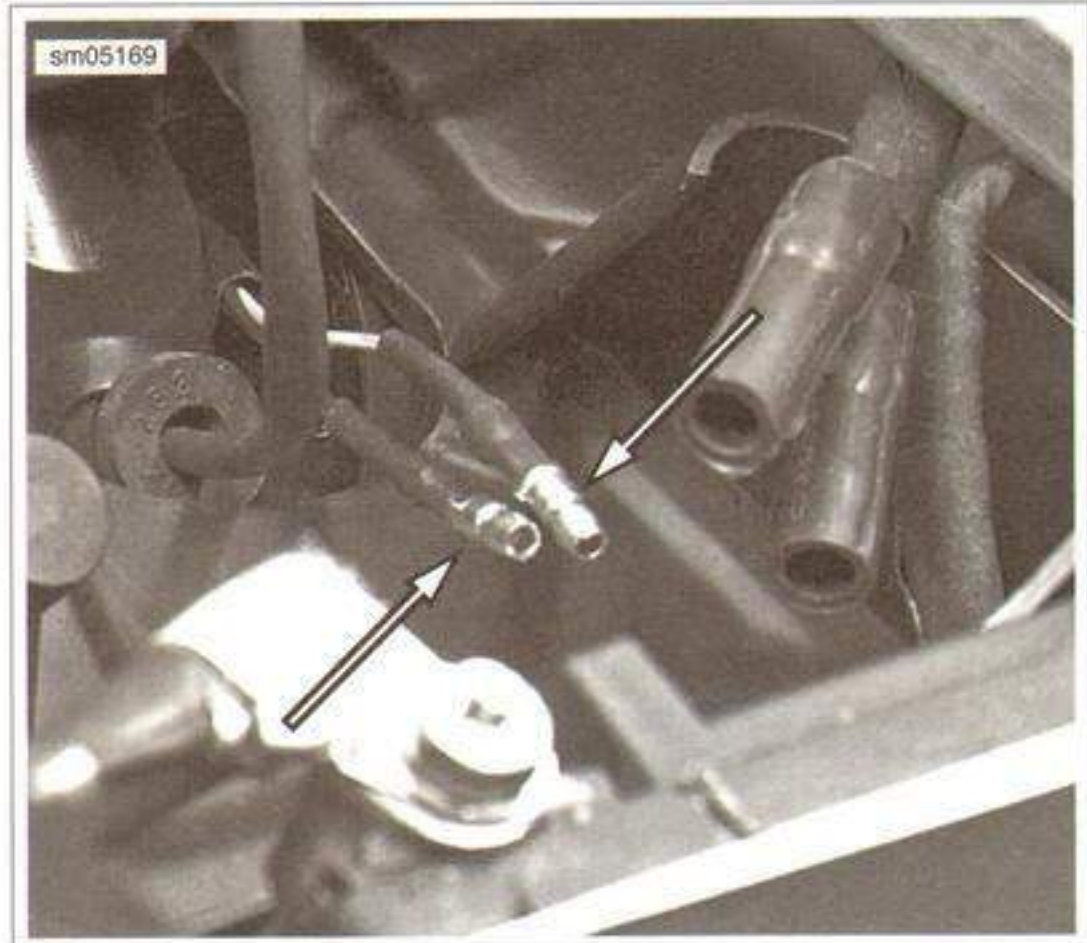

Figure 7-66. License Plate Lamp Barrel Connectors
7. See Figure 7-66. Mate license plate lamp barrel connectors.